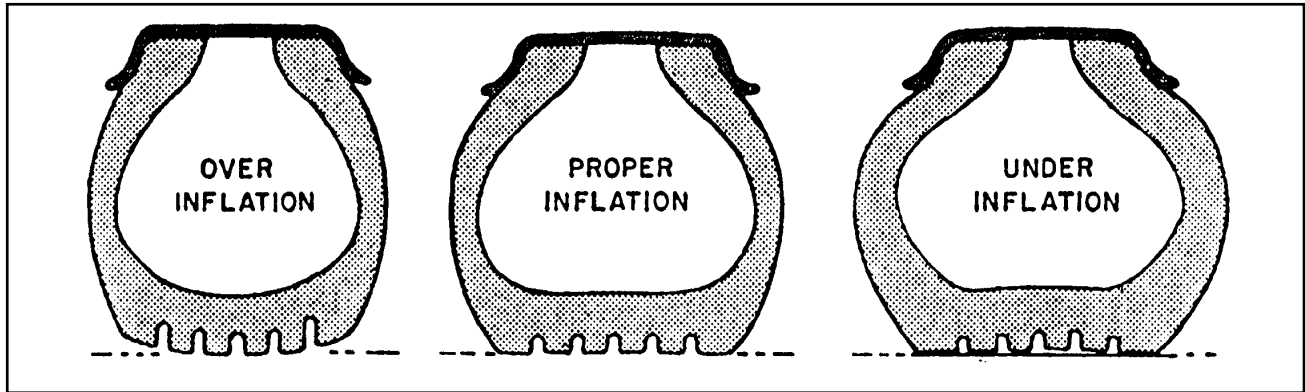

Figure 4-15 Tire Inflation Examples
**4-11.1 Tire Inflation.** Tire inflation will cause tire to ground contact characteristics as shown in **Figure 4-15**. Tire inflation should be checked daily while the tire is cold, and during road stops. Checking the tire pressures while tires are hot will give a faulty increased pressure reading. Adjusting tire air pressure to the specified amount while tires are hot will produce improper tire to road contact and thus abnormal wear. Do not exceed cold inflation pressure listed on the semitrailer VIN plate located on the front of the trailer. Exceeding cold inflation pressure will result in damaged tire bodies, rims, and wheels. Replace all valve stem caps when pressure checking/adjusting has been completed. Remove any foreign objects from between duals.